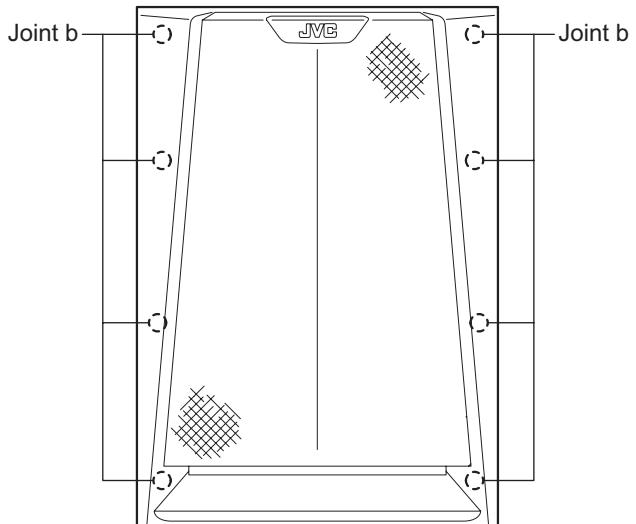

Fig.5
2.5.2.1 Removing the front cover (See Fig.5)
Do not break or damage the front panel and body that are glued at the joints **b**. (See Fig.5)